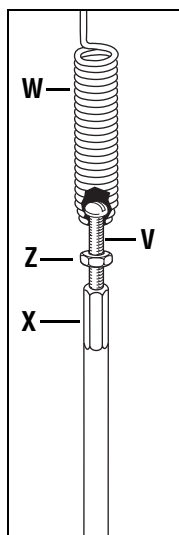

Fig. 2-5: Cable spring and adjuster.
2. Thread the #10-24 hex nut (Z, Fig. 2-5) halfway onto the screw (V) which runs through the spring (W, Fig. 2-5).
3. Thread the screw (V) into the cable adjuster (X).